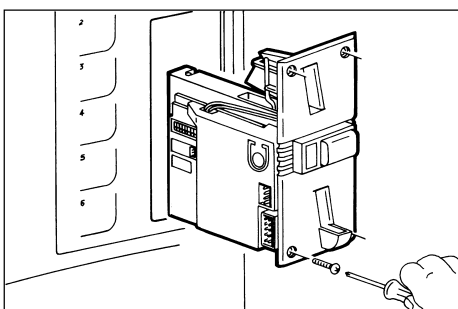

Fig. 16
- Fasten the coiner to the door with the 4 screws and nuts supplied (Fig. 16).